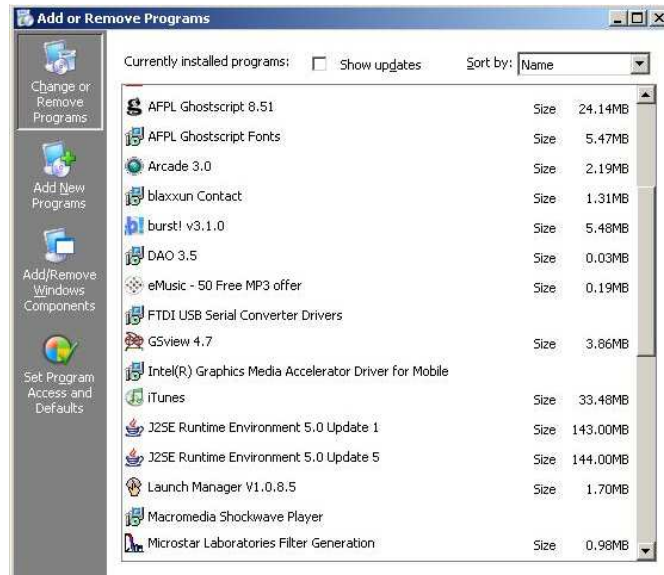

Figure 23: Add or Remove Programs
3. Double click on Add or Remove Programs, obtaining a screen like figure 23.
Figure 23 lists the FTDI drivers, so they are installed. Similarly, the Tcl/Tk program for the unit should be shown on the same list under Syscomp.
1. On the Add or Remove Programs list of figure 23, find the entry `System`. Double click on it to obtain the `System Properties` screen of figure 24.